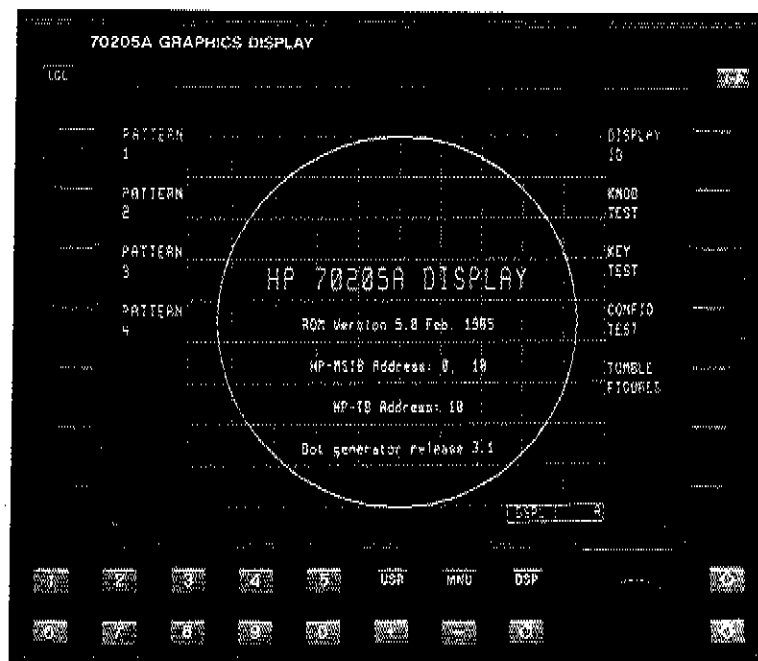

Figure 13. Test Pattern
- a. Obtain test pattern by following the procedure in step 5 (Accessing Adjustment Test Patterns) and pressing DISPLAY ID soft key (Test Pattern is shown in Figure 13).